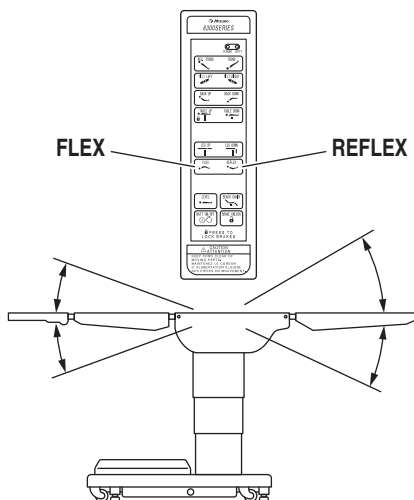

Figure 2-13. Flex/Reflex Positioning
g. Flex Positioning To place the table top in a flex position from horizontal, press the FLEX button (figure 2-13). To return the table top to a horizontal position or into a reflex position, press the LEVEL or REFLEX button.